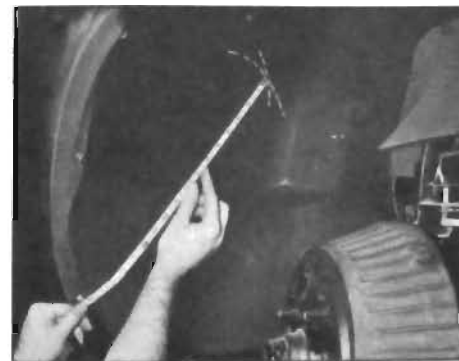

Figure 11-13—Locating Dimple on Right Inner Fender Skirt
2. Draw an arc on inside of skirt 11 inches from upper bolt of wheel opening (see Figure 11-13). Draw another arc 16-3/4 inches from lower bolt of wheel opening. Punch a dimple at the intersection of the arcs.